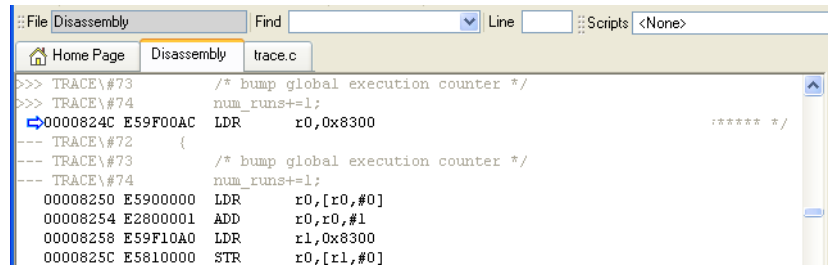

Figure 10-20 Disassembly view
- d. The **Disassembly** tab is displayed, and the corresponding address is indicated by a hollow blue arrow. Figure 10-20 shows an example: